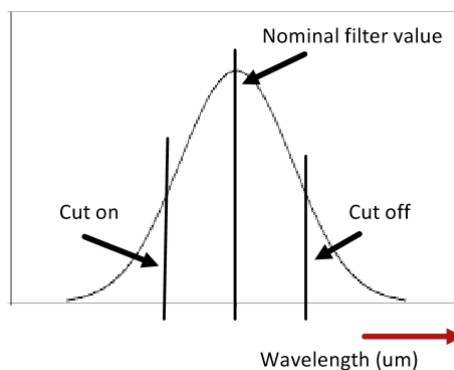

Figure 1 – Narrow Band Infrared Filter Diagram
**CWL:** Centre Wavelength (Nominal filter value per Figure 1).
**FWHM:** Full Width Half Maximum (Cut on to Cut off per Figure 1).